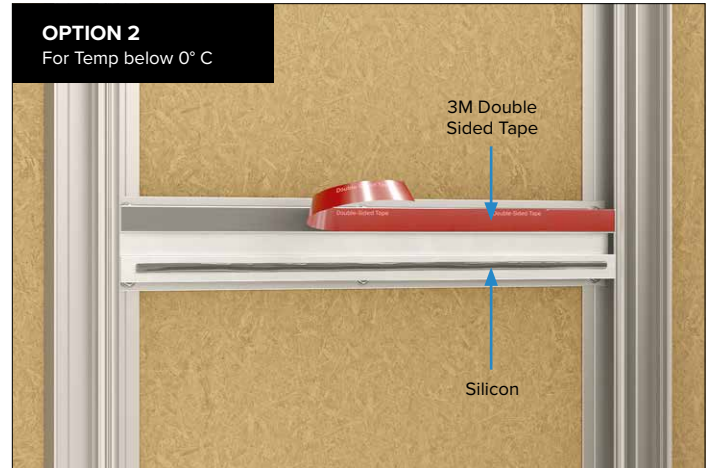

Figure 6
- Option 2:** For installation in colder climate (below 0° C), apply 3M double sided tape on one mating surface and silicone glue on the other mating surface (Figure 6).